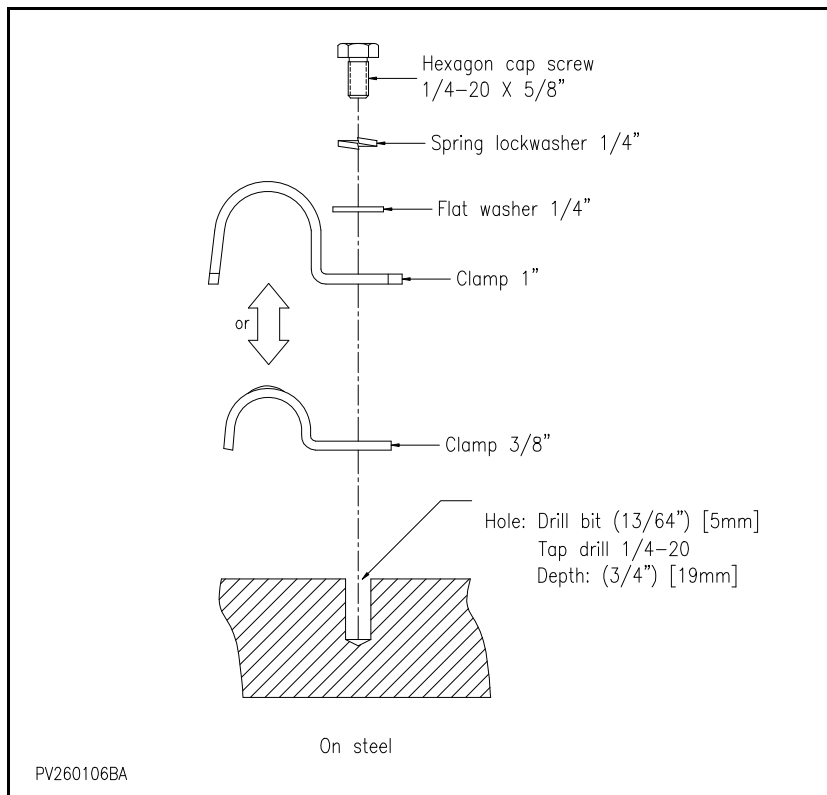

Figure 5 : Clamp installation
1. Drill holes as shown in *Figure 5 : Clamp installation*.